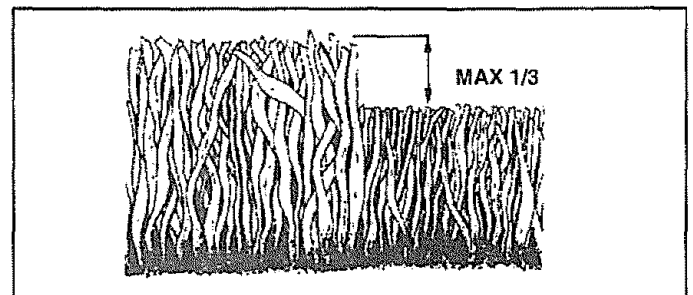

FIG. 9
- For best results, adjust the lawn mower cutting height so that the lawn mower cuts off only the top one-third of the grass blades (See Fig. 9). If the lawn is overgrown it will be necessary to raise the height of cut to reduce pushing effort and to keep from overloading the engine and leaving clumps of mulched grass. For extremely heavy mulching, reduce your width of cut, mow slowly and raise the rear of the lawn mower one wheel adjuster setting higher than the front.